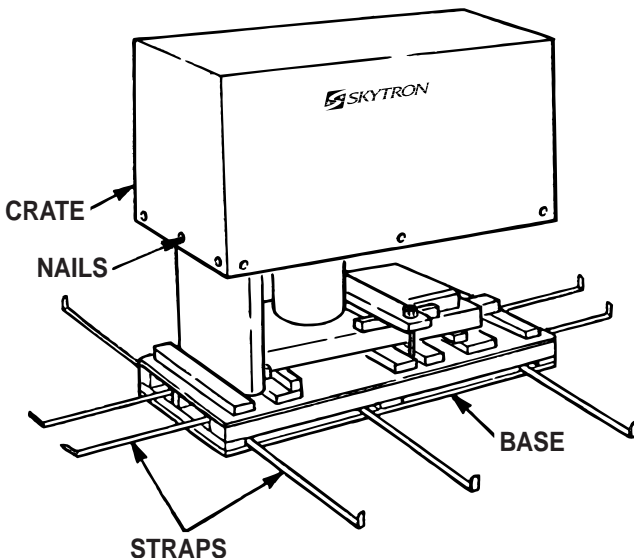

Figure 1.
1. Cut and remove the plastic straps and remove the nails around the base of the crate. See figure 1. Remove the complete box top and sides as an assembly by lifting it straight up over the table.